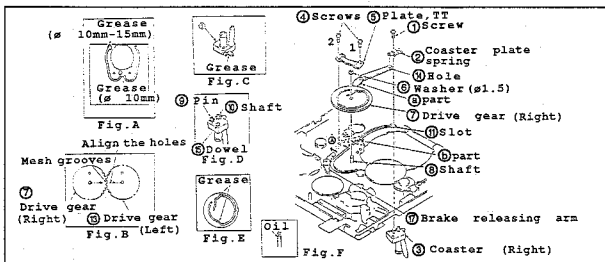

Fig.II-24
• Disassembling (Fig.II-24)
- (1) In the same procedures "3-3" and "3-12", dismount the capstan motor and the drum unit.
- (2) In the same procedures in "3-14", take off the loading lever.
- (3) Set STOP mode.
- (4) To take off the coaster plate spring ② and the coaster (Right) ③, remove the screw ①.
- (5) To detach the plate TT ⑤, remove the two screws ④.
- (6) To dismount the drive gear (Right) ⑦, remove the washer ⑥ (ø1.5).
• Reassembling (Fig.II-24)
*Caution: Do not turn the tilt adjusting screw ③ of coaster (Right). (Repair parts have been already adjusted.)
- (1) Apply the grease to the indicated positions of chassis as shown in Fig.A.
- (2) Apply the 1/2 drop of oil to the shaft ⑧. (Fig.F)
- (3) Apply the grease onto the pin ⑨, the shaft ⑩ and the dowel ⑪ of coaster (Right) ③.
- (4) Assemble the pin ⑨ and the shaft ⑩ aligning the slot ⑪ of chassis.
- (5) Put the brake releasing arm ⑦ to the arrowed direction A.
- (6) Install the drive gear (Right) ⑦ to the shaft ⑧. Then, mesh it with the drive gear (Left) ⑥ while aligning each phases as shown in Fig.B.
- (7) Align ② with ⑥, the hole ④ with the pin ⑨ of coaster (Right) ③, respectively.
- (8) Secure the washer ⑥ (ø1.5).
- (9) Assemble the coaster plate spring ② while aligning the shaft ⑩ (coaster ③) with the pin ⑨. Then, secure it with the screw ①. (Torque: 500g/cm approx).